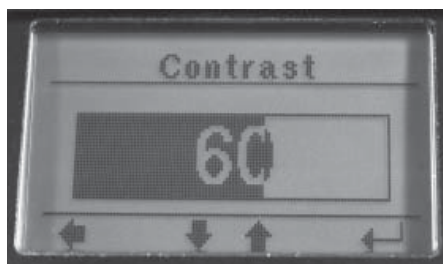

Figure 15. Contrast Screen
3. Use UP/DOWN buttons to scroll to "Contrast" (Figure 15)